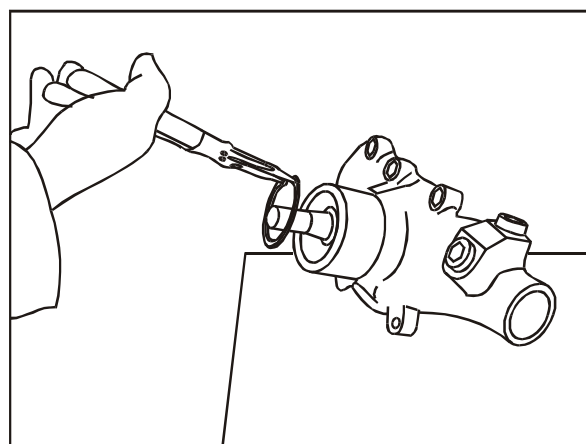

FIG 16
6. Monte o anel trava, **Fig. 16**.